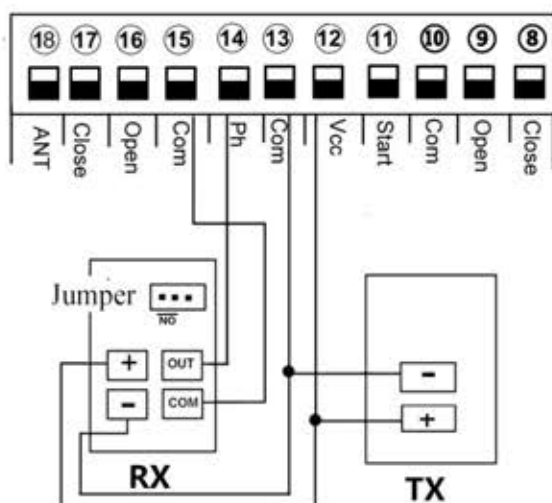

Fig 12
6.5. Connect to infrared sensor. Fig12